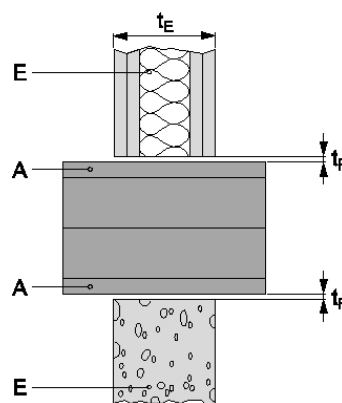

Figure 3
- Hilti Firestop Module Box CFS-MB (2xA) or its half (A) is put into a rectangular void of wall or floor; centred within wall/floor. In case only the half is used, the open side has to face a wall or floor.
- See figure 3